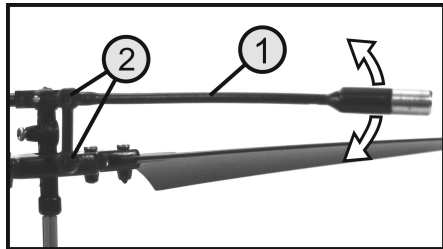

Figure 6
Move the centrifugal weight rod up and down by hand on one side (see arrows in Figure 6), and check that the ball joints (2) can move freely.